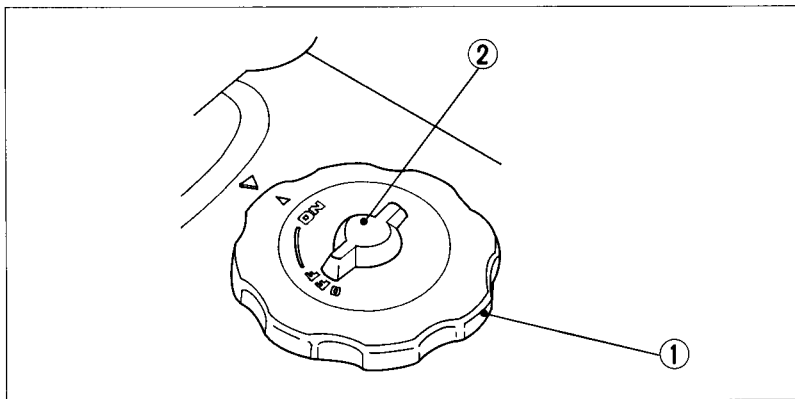

Fig. 2-14
The fuel tank cap (Fig. 2-14) has a fuel cap vent lever (2) with ON and OFF positions. The lever should be turned to ON to allow fuel to flow when running the engine. Turn the vent lever to OFF to prevent fuel from flowing out the vent hole when transporting the FOURTRAX.